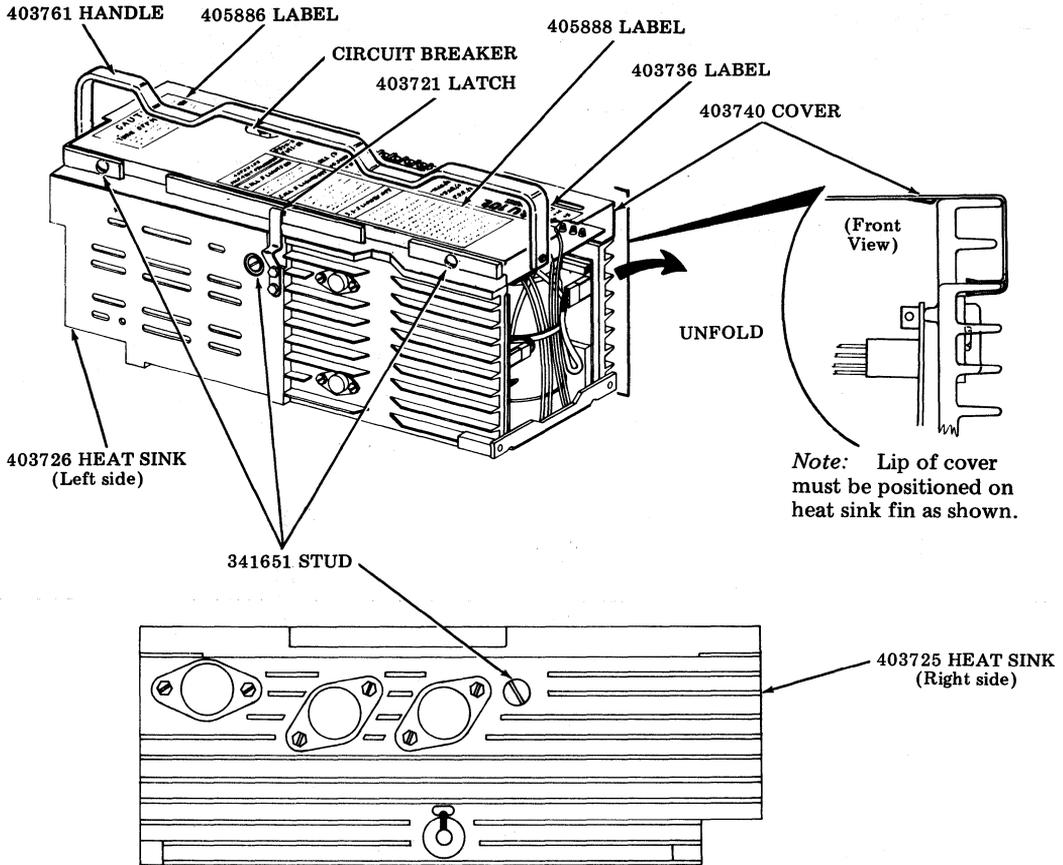

Fig. 31
3.01 To remove cover assembly (Fig. 31):
- (b) Make sure lip of cover is positioned on fin of heat sink as shown in Fig. 31.